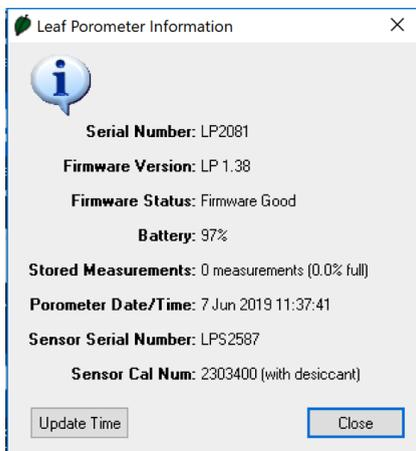

Figure 39 Leaf Porometer Information screen
- **View Porometer Information:** Shows the serial number, firmware version, number of stored readings in the SC-1, firmware status, battery status, current date and time, and sensor calibration number (Figure 39).